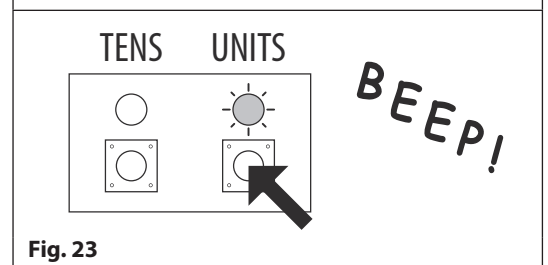

Fig. 23
2. Use the units button to set the unit ID of the reader, e.g. to set the unit ID to 5 press the units button 5 times (listen for the confirmation beep each time the button is pressed and observe the yellow units LED as this should flash each time the button is pressed), see **Fig.23**.